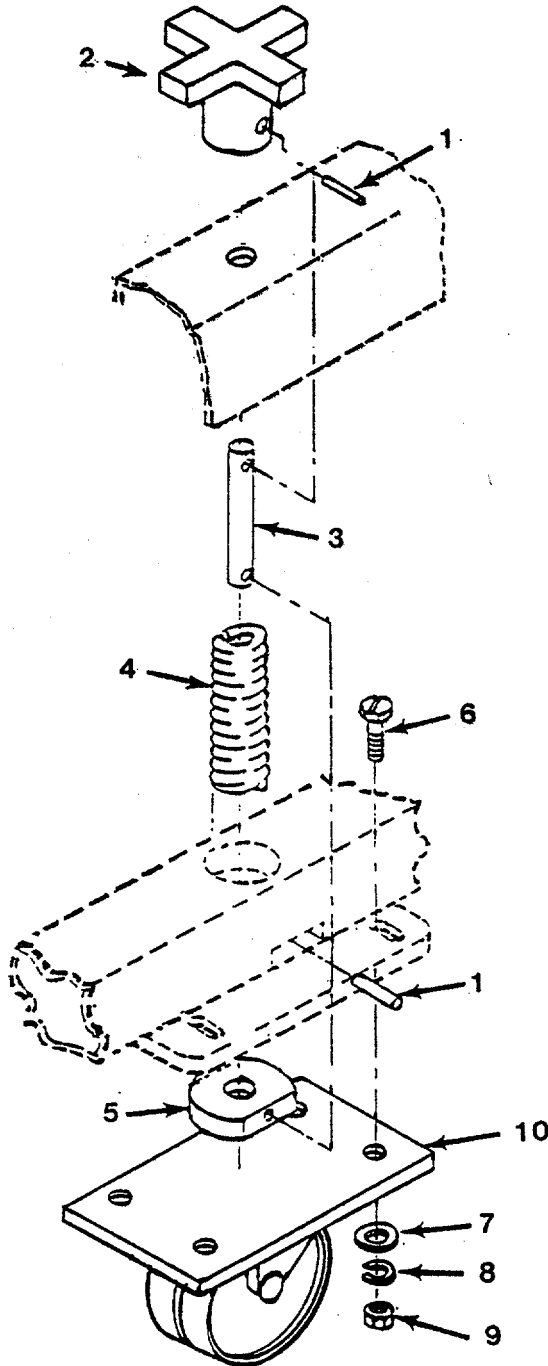

Figure 20. Transporter Wheel Assembly
| (1) ITEM NO | (2) SMR CODE | (3) CAGEC | (4) PART NUMBER | (5) DESCRIPTION AND USABLE ON CODES(UOC) GROUP 08 PAPER STORAGE RACK ASSEMBLY WITH TABLE STORAGE FIG. 20 TRANSPORTER WHEEL ASSEMBLY | (6) QTY |